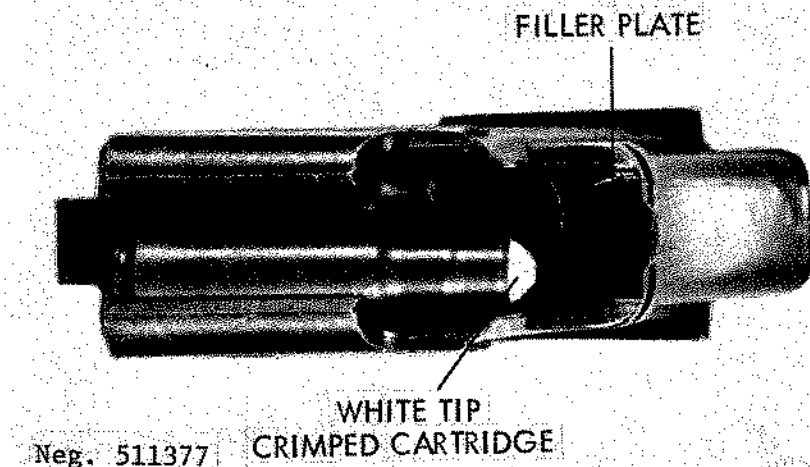

Figure 78. Grenade cartridge and magazine.
c. Load the special 10-round Polish or regular Yugoslav magazine with white-tipped crimped cartridges (fig 78). Other